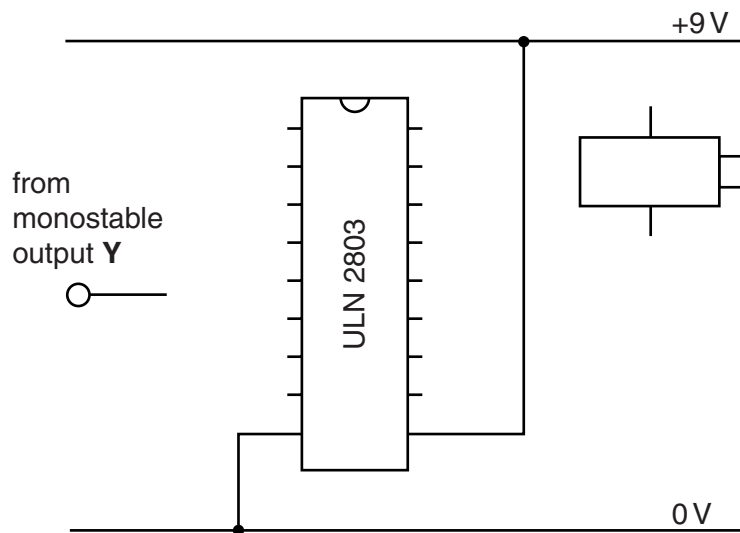

Fig. 11
- (d) Fig. 11 shows part of the driver circuit for the solenoid.